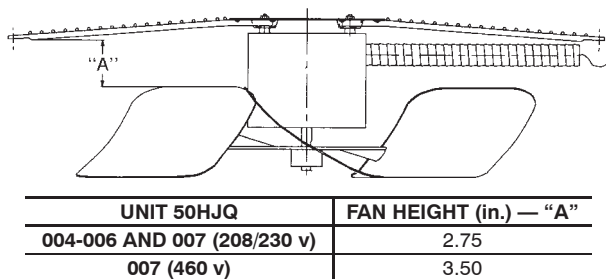

Fig. 48 - Outdoor-Fan Adjustment
- Adjust the fan height as shown in Fig. 48.